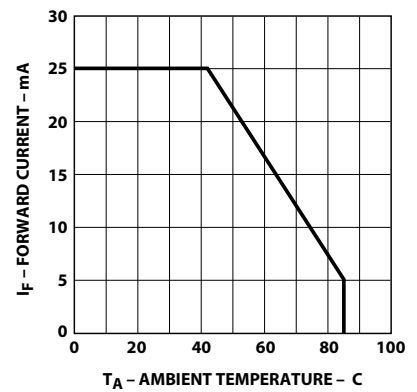

Figure 4. Maximum DC Current vs. Ambient Temperature.
1. Derate linearly as shown on Figure 4.